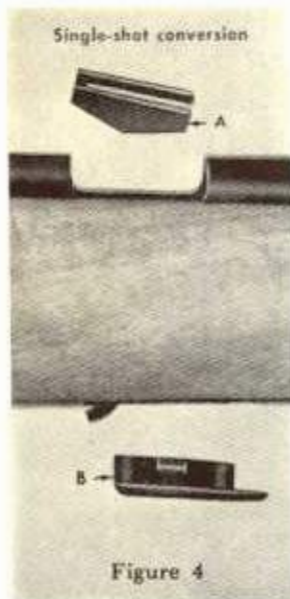

Figure 4
and is inserted into the top of the magazine housing through the receiver opening after the breech bolt has been removed (Figure 4). The loading ramp has a horizontal slot through its axis and should be inserted with the open end of the slot toward the chamber. With reasonable pressure with the thumb of either hand the ramp will snap and lock into place just below the level of the chamber. Then try the bolt carefully to be sure the ramp is properly seated and does not obstruct
3. In the magazine recess in the bottom of the stock, insert Adapter Piece (B) (Figure 4), which merely serves as an enclosure. It is inserted with the lip forward or toward the muzzle and snapped into place with slight thumb pressure.